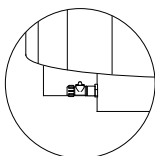

Figure 13.5a
1. Locate the hose bib, at the bottom of the hot tub, Figure 13.5a. Make sure that the valve is in the OFF position.